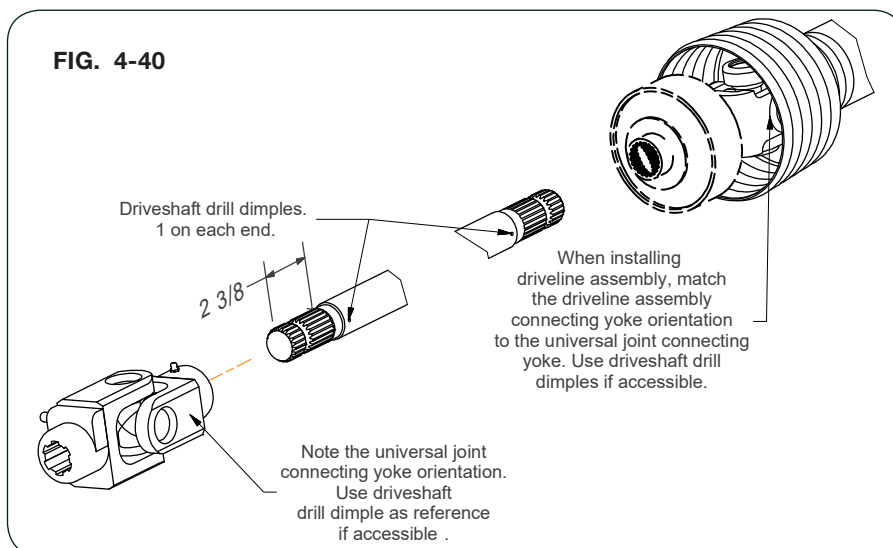

FIG. 4-40
11. Slide driveshaft down into the universal joint attached to the gearbox until the end of the shaft extends into the universal joint about 2 3/8". Ensure universal joint and driveshaft splines completely engage. Verify the hitch end for adequate length for driveline assembly to connect. (FIG. 4-40)